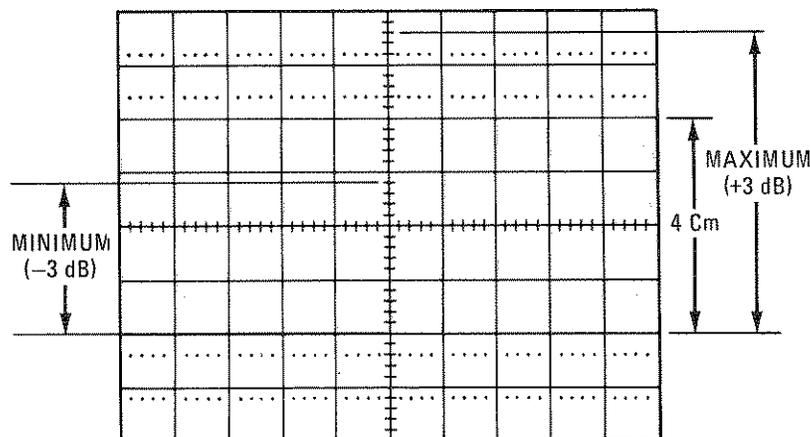

Figure 5-36. FM Flatness Tolerance, DC to 2 MHz
10. Check that ±3 dB flatness specification is met between DC and 2 MHz as follows. Manually sweep the function generator frequency between DC and 2 MHz. On the oscilloscope, note maximum and minimum response points (Figure 5-36). Maximum point (+3dB) can be up to 5.6 divisions, and minimum point (-3 dB) can be down to 2.8 divisions.